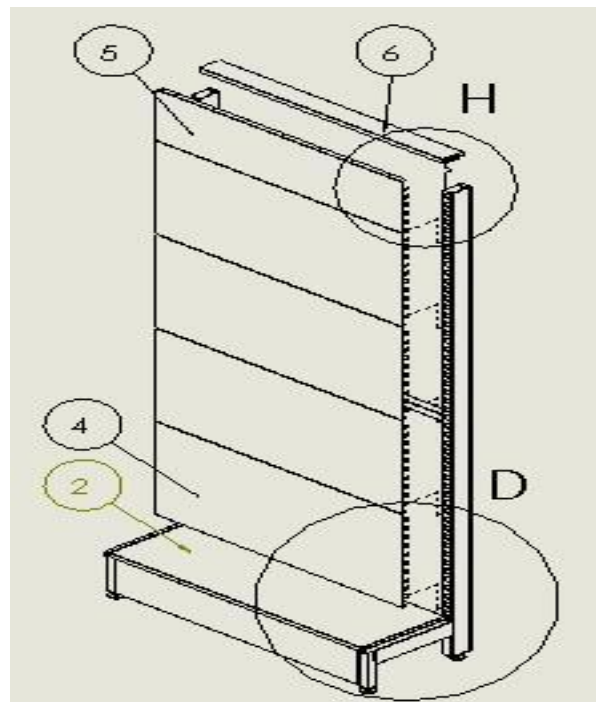

Figure 4
- 6** Insert remaining 3 large plain panels (Item 4) so that they sit on top of the panel below (see Figure 4)